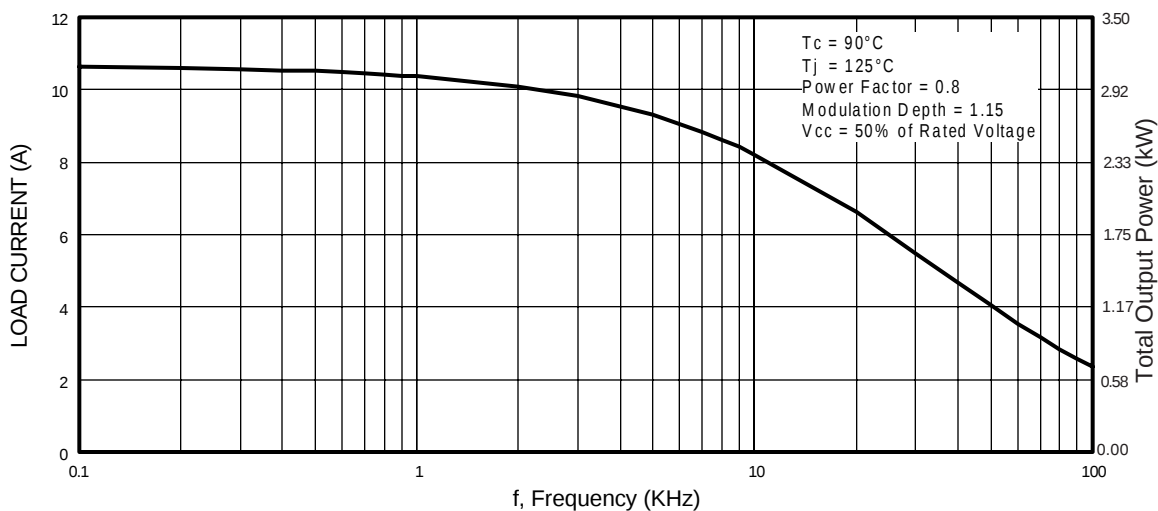

Fig. 1 - Typical Load Current vs. Frequency
See Fig. 1 for Current vs. Frequency curve
6.7 A_{RMS} per phase (1.94 kW total) with T_C = 90°C, T_J = 125°C, Supply Voltage 360Vdc, Power Factor 0.8, Modulation Depth 115% (See Figure 1)